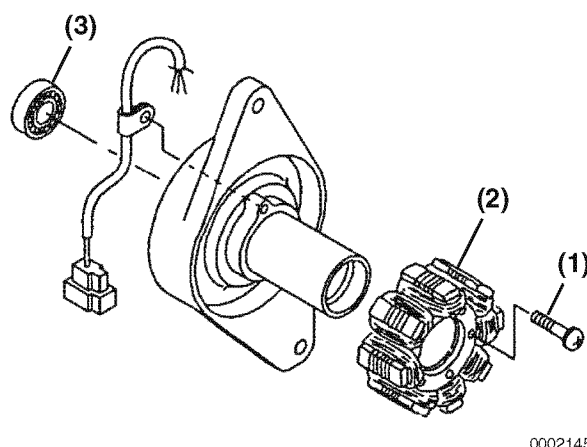

Figure 12-27
1. Reinstall the rear bearing (Figure 12-27, (3)).
2. Reinstall the stator (Figure 12-27, (2)) and screws.